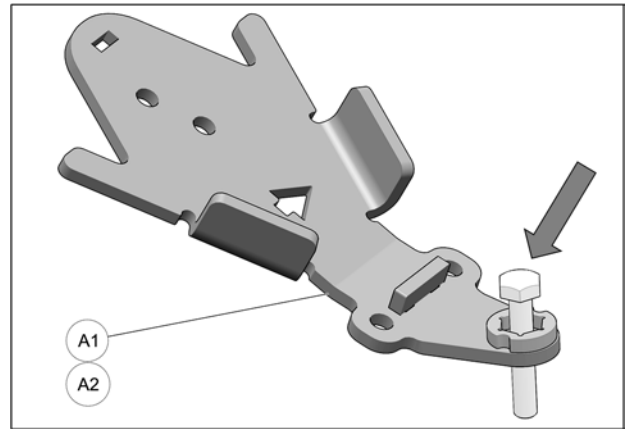

Fig. 12
4. Insert bolt in front anchor bracket (A1-A2) as shown in Fig. 12